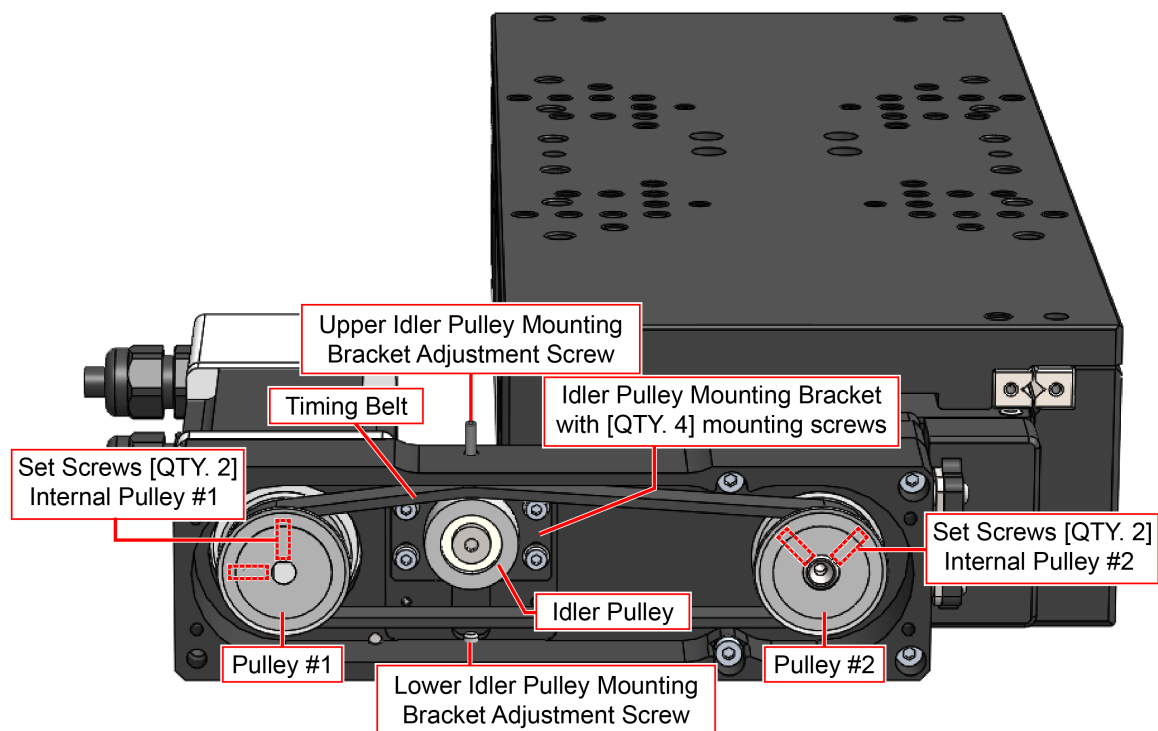

Figure 4-4: Foldback Motor Part Callouts
3. Check that the pulleys are tight on their respective shafts (Figure 4-4).
4. Check the tension in the belt to determine if adjustment is necessary (Figure 4-4).
5. If adjustment is required, loosen (but do not remove) the mounting screws for the idler pulley mounting bracket (Figure 4-4).
6. Insert an M4 screw or threaded stud long enough to contact the idler pulley mounting bracket (Figure 4-4).